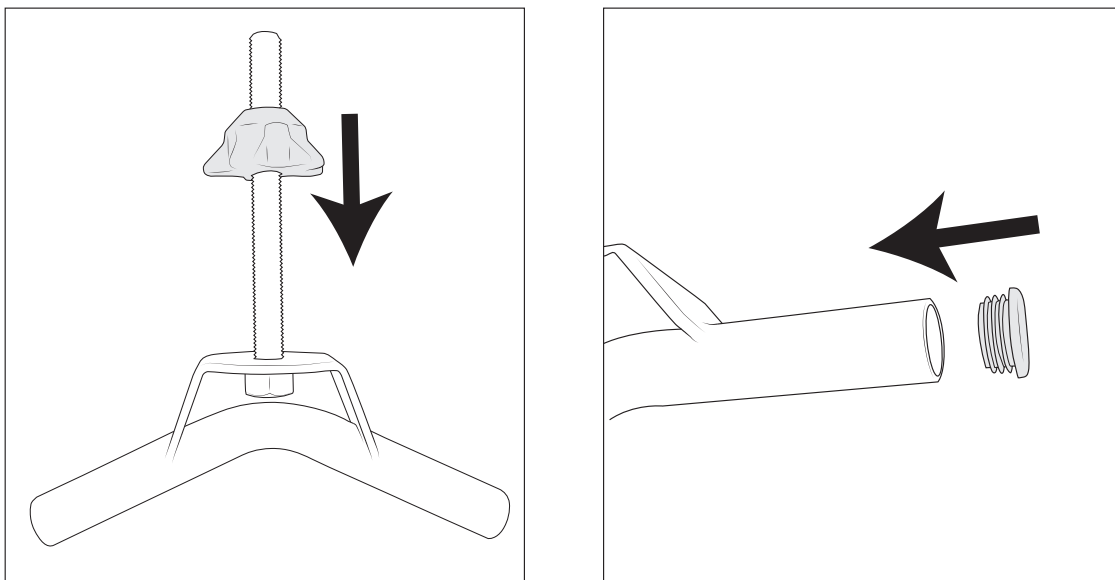

Figure 10
1. Slide molded spacer onto threaded portion of handle (fig. 10).
2. Install 1 1/2" end caps on to handle (fig. 10).